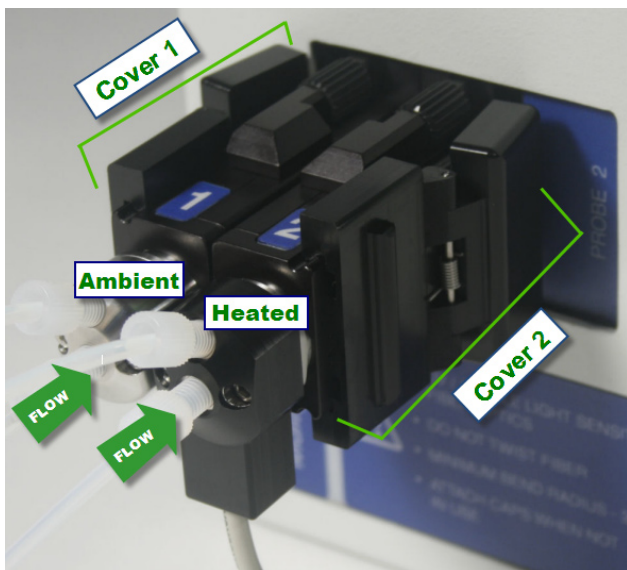

Figure 8: Two flow cells (ambient on left, heated on right) in proper orientation.
For example, if you are installing two DS Micro Flow Cells in a ReactIR 45m, the flow cell body inserts one way into the D-shaped receptacle on the MUX interface. As a result, it may be necessary to reverse one of the flow cell heads to maintain the proper flow direction. Figure 8 shows this type of installation. A proper orientation has the following characteristics:
- Input flow tube is at the center of the flow cell head with the output flow directed upward (only input flow is labeled in Figure 8).